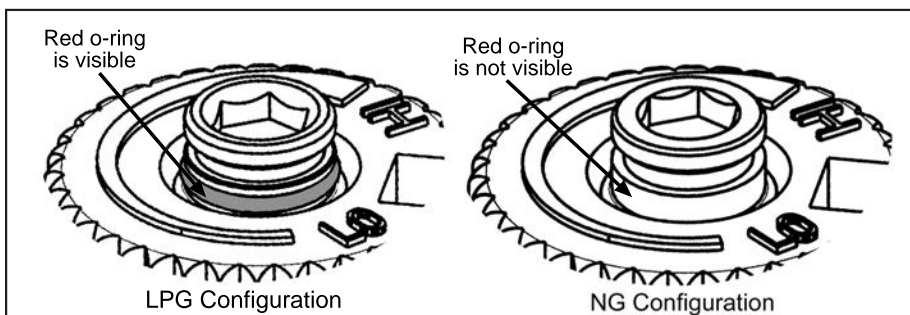

Figure 13: O-ring on valve screw.
- g) Verify that if the conversion is from NG to LPG, the screw must be re-assembled with the red o-ring visible (refer to Figure 13). If the conversion is from LPG to NG, the red o-ring of the screw must not be visible.